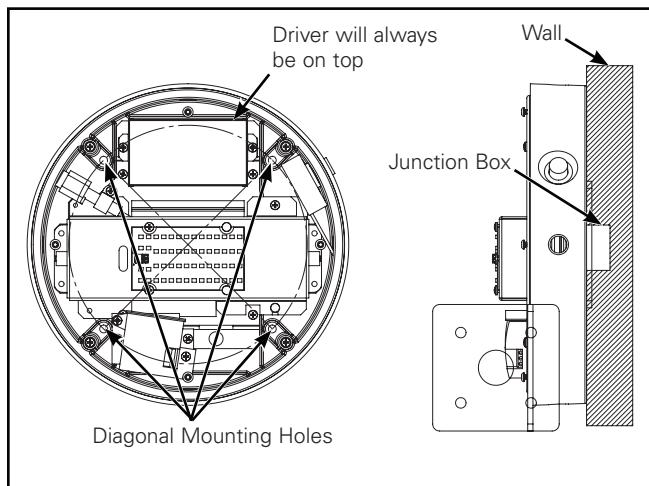

Figure 7. Shallow Cast Unit Installation
4. Center cast housing on flat smooth ceiling or wall over junction box. Use cast housing as a template to layout fastener locations. (Figure 7.)
7. Align fixture without lens to four mount holes. For wall mounted, note the driver will be oriented at the top as shown in (Figure 7). Tighten all four mounting fasteners sufficiently to compress housing into gasket.